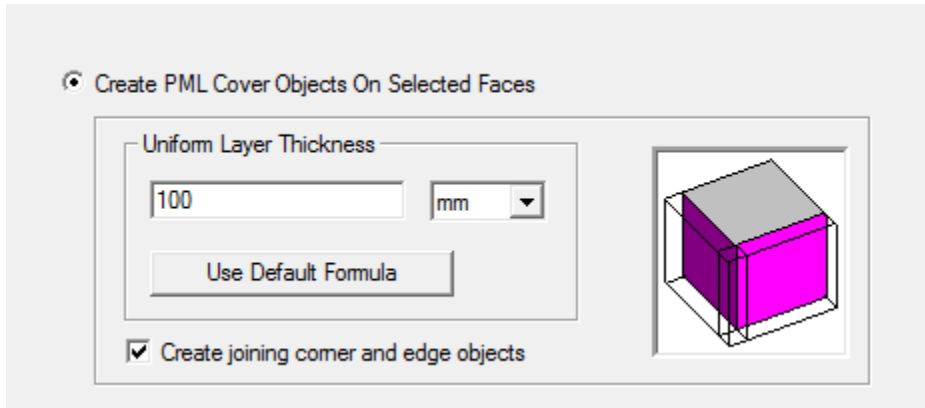

Figure 5. Specifying the thickness
- 5 Edit the thickness: 100 mm. See Figure 5 below.